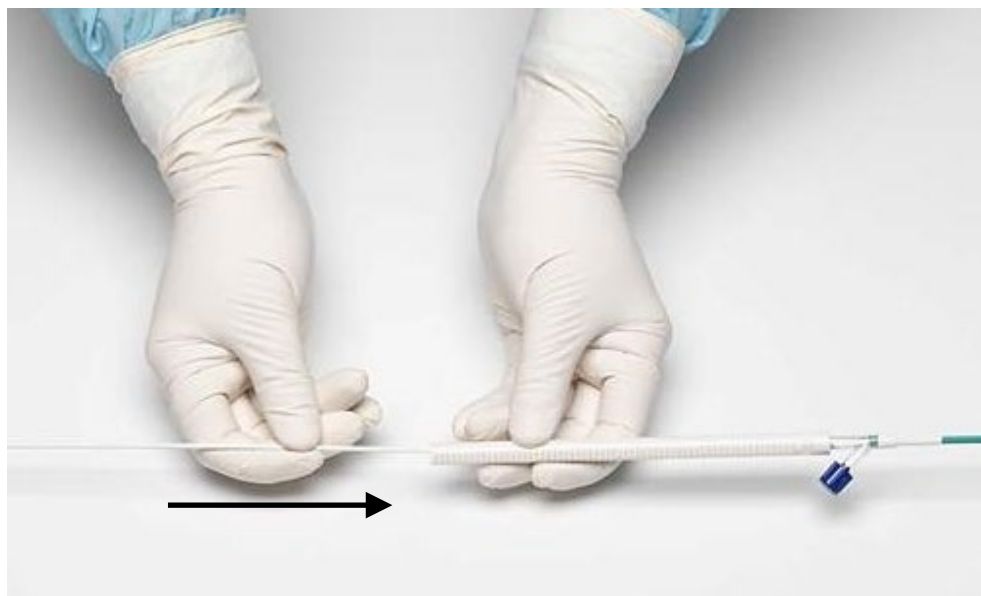

**Figure 9: Advancing the Implant into the Delivery Catheter**
- d. Advance the implant out of the cartridge and into the delivery catheter by manually advancing the sheath/pusher assembly at the proximal end of the cartridge. Push in small increments (1cm - 2 cm increments) so as not to kink the sheath/pusher assembly (Figure 9). Continue to advance the sheath/pusher assembly until the handle and cartridge come together.